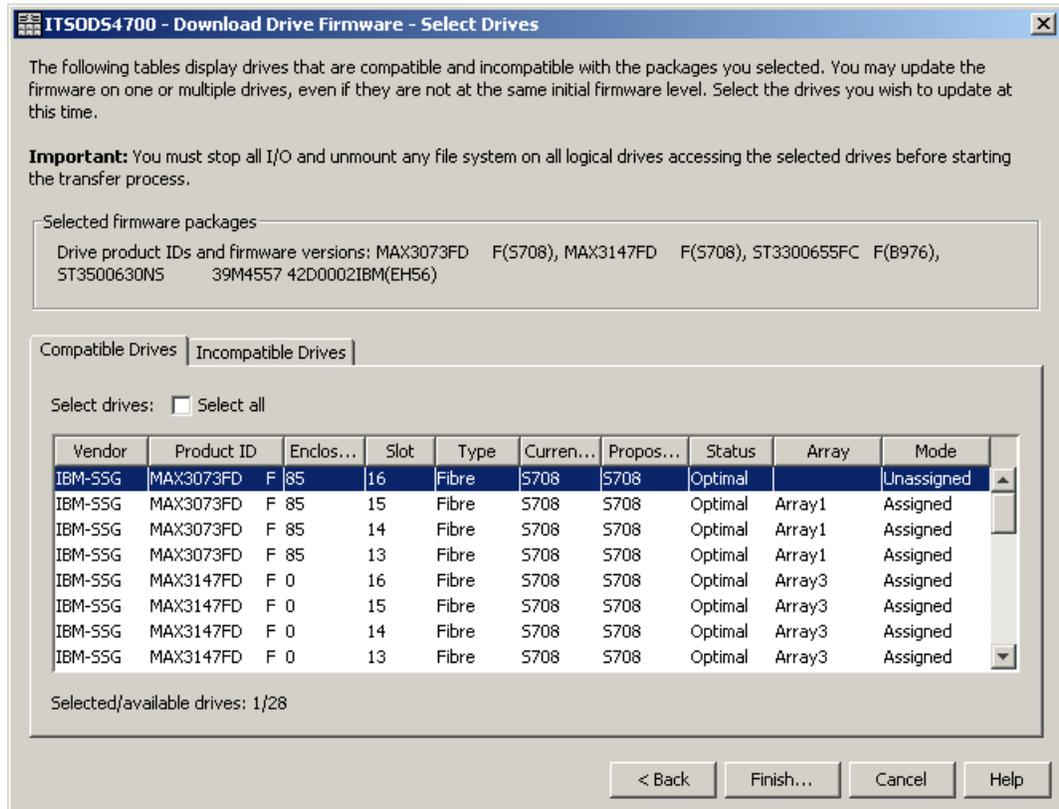

Figure 12-22 Drive firmware update: Select drives
- The next step is to select the down-level drives and mark them for update (see Figure 12-22).